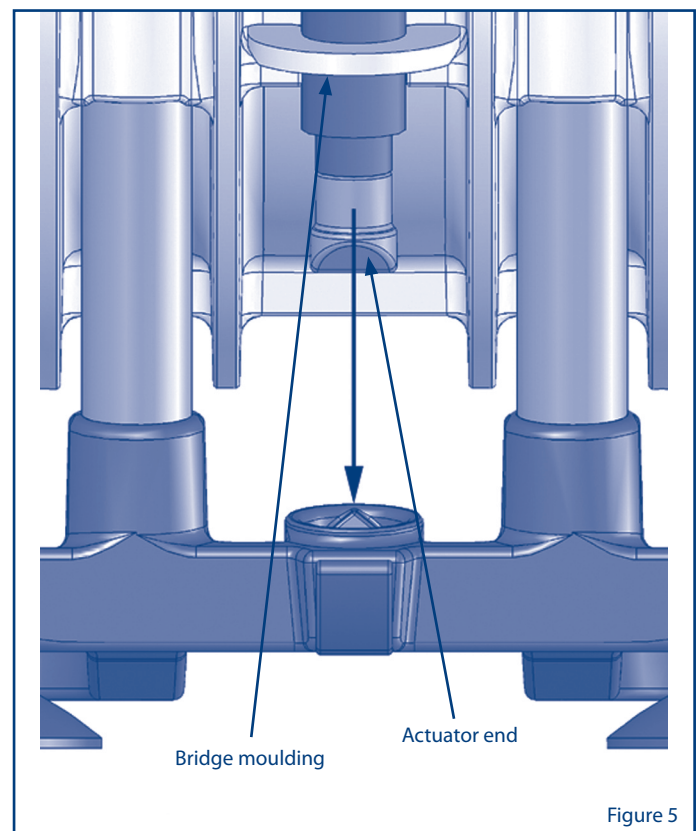

Figure 5
Check that the bridge moulding is securely attached to the seat and the actuator end is located in the hole in the base frame (see fig 5).
- Ensure the bridge moulding is in place and the actuator end is located correctly in the base frame socket when installing the Neptune (see fig 5).